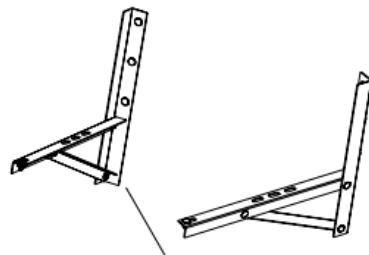

Fig 10
- If installation brackets for installing outdoor unit are needed, user could buy the brackets from our company or agents (Fig.10) .